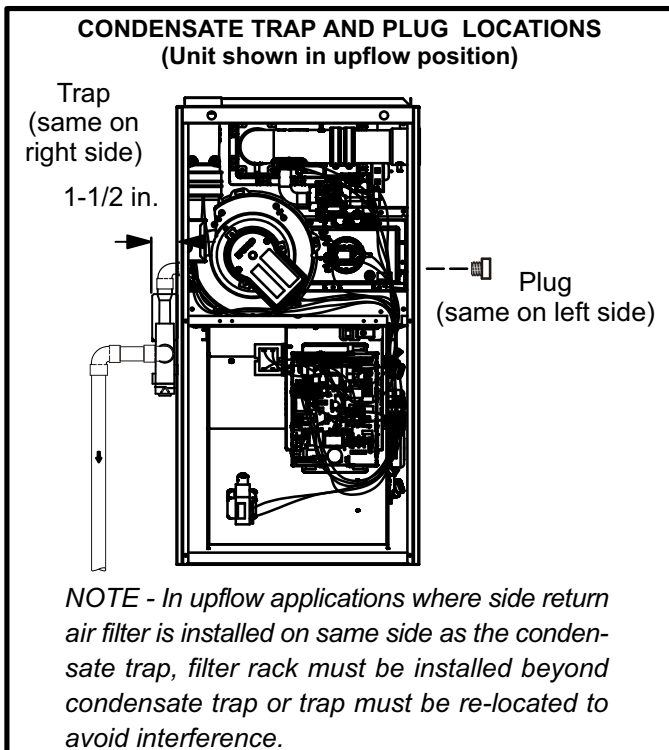
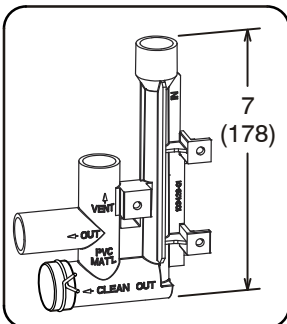

FIGURE 35
FIGURE 43
This unit is designed for either right- or left-side exit of condensate piping in upflow applications. In horizontal applications, the condensate trap must extend below the unit. An 8" service clearance is required for the condensate trap. Refer to figure 35 for condensate trap locations. Figure 43 shows trap assembly using 1/2" PVC or 3/4" PVC.
- 2 - For furnaces with a 1/2" drain connection use a 3/8 allen wrench and remove plug (figure 35) from the cold end header box at the appropriate location on the side of the unit. Install field-provided 1/2 NPT male fitting into cold end header box. For furnaces with a 3/4" drain connection use a large flat head screw driver or a 1/2" drive socket extension and remove plug. Install provided 3/4 NPT street elbow fitting into cold end header box. Use Teflon tape or appropriate pipe dope.
- 3 - Install the cap over the clean out opening at the base of the trap. Secure with clamp. See figure 43.
- 4 - Install drain trap using appropriate PVC fittings, glue all joints. Glue the provided drain trap as shown in figures 43. Route the condensate line to an open drain. *Condensate line must maintain a 1/4" downward slope from the furnace to the drain.*